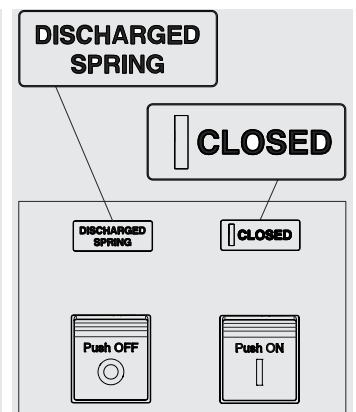

Figure 51
3. Circuit-breaker closed with springs discharged (see Figure 51).